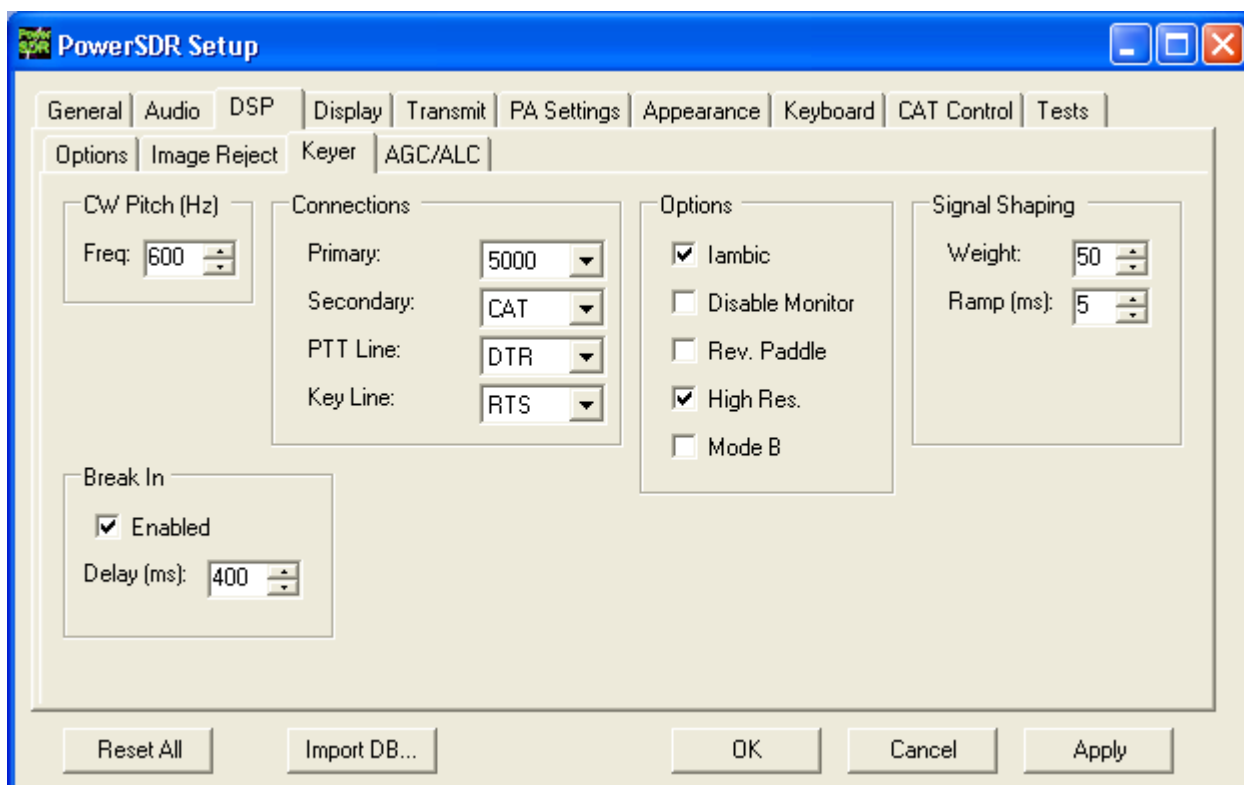

Figure 141: Setup Form – DSP Tab, Keyer Sub-Tab
If using PowerSDR's internal keyer, open the Setup Form – DSP Tab, Keyer Sub-Tab shown Figure 141 below. Several of the controls in this form are also available in the **Mode Specific Controls – CW (8)** section on the Front Console.
1. Connect your paddles or keyer to the Key jack on the back panel (see page 7) and set the **Primary Connection** to **5000** (see Figure 141 above)
4. If not using **Break In**, click **MOX (16)** on the Front Console and begin transmitting using your external keyer. If using **Break In**, simply begin transmitting to key the radio. If **Disable Monitor** is unchecked, you should hear the side tone. Verify with the **TX Meter (4)** set to **Fwd Pwr** that there is forward power.
5. You are now ready to begin a QSO. If a 50 ohm dummy load was connected, connect an antenna in its place. Tune to the desired frequency using one of the methods outlined in the Tuning Methods section above. Select either **CWL** or **CWU (6)** and proceed with the QSO.